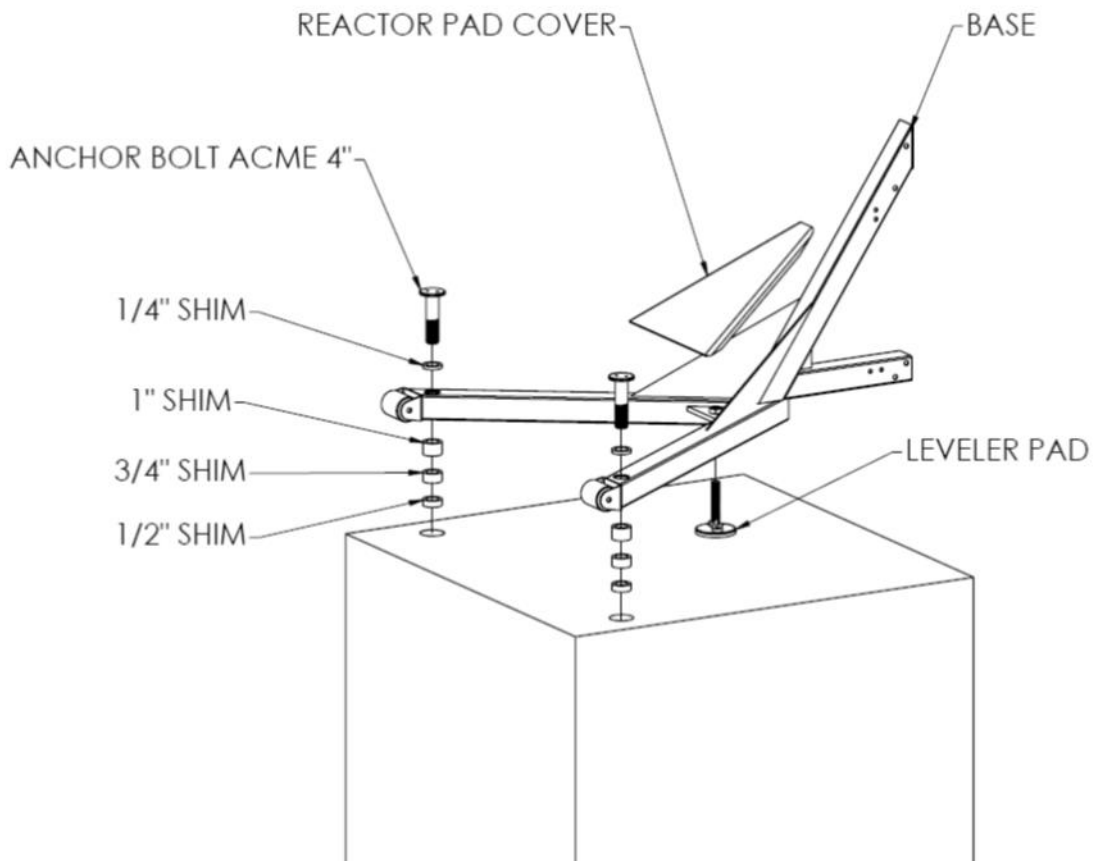

Figure 4
2. Use a 1-1/2" diameter concrete core drill to drill out the anchor holes to a depth of 2-3/16" as shown in Figure 4. Clean all of the debris from the holes. Check to see that the bottom of each hole is in solid concrete. The anchors will only hold if the surrounding concrete is solid. The top of the anchor should be 1/4" below the deck surface. The anchors can be installed deeper, if necessary, to mount to sufficiently solid concrete.
5. Screw the leveler pad into the base assembly as shown in Figure 4, flush with the bottom of the base stand until further adjustment.
6. Bolt the lift to the anchors in the deck using two 1" by 4" acme bolts as shown in Figure 4. **Do not completely tighten the 1" diameter acme bolts at this time.**
10. Level the lift front to back, if necessary, by using donut shims between the base stand and each anchor, and adjusting the leveler pad by screwing the pad in or out. The donut shims can be used individually or in combination to level the lift. The donut shims can be used above the anchor base or below as shown in Figure 4 to prevent the acme bolts from bottoming out in the anchors.
12. Install cover on lift as shown in Figure 4.